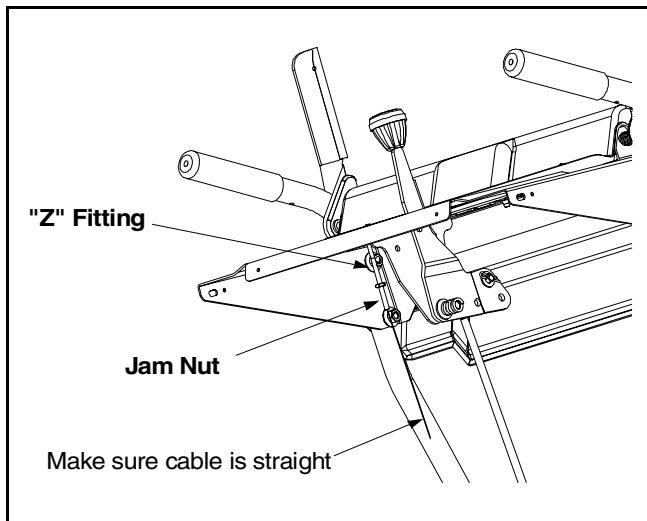

Figure 6
- Retighten the hex jam nut. See Figure 6.